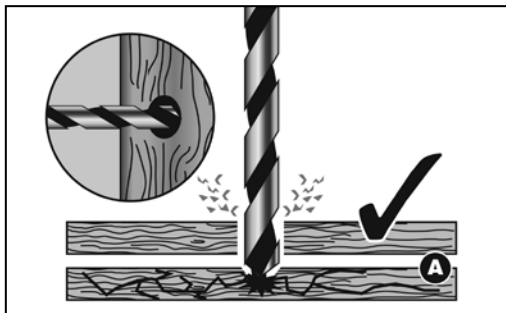

FIG. 7
- Move the forward/reverse selector (7) to the reverse position (anti-clockwise rotation). Apply pressure to the screw head and depress the trigger slowly to undo and remove the fixing.
6.8 DRILLING WOOD AND PLASTIC – FIG.7